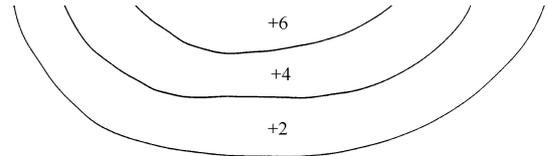

FIG 1 'CONTOURS' SHOW REGIONS OF SINK & LIFT.
2. Practical experience, in general, suggests that a typical thermal is roughly circular in cross-section; has a strong core of lift, tapering to weak lift near the edges; and is surrounded by air which is sinking. The thermal may be 'mapped' with "contours" of sink and lift (**Fig.1**). Depending on the source of lift and the height above the ground the thermal may be a stream of rising warm air, like the smoke from a stubble fire in autumn, or it may have become detached from its original source and be an isolated bubble with a distinct vertical circulation (**Fig 2**). In either case the pilot's objective is the same - to locate and circle tightly round the core of rising air.